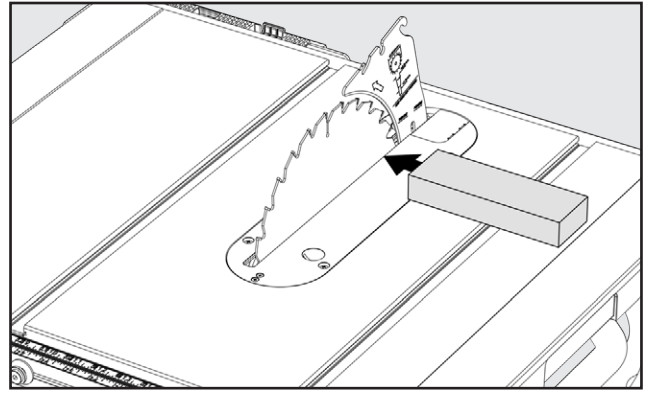

FIGURE 26
5. If the rear of the blade was too close to combination square, place a block of wood on the right side of the blade. Lightly tap with a small hammer or rubber mallet to achieve the correct parallelism adjustment . See Figure 26.